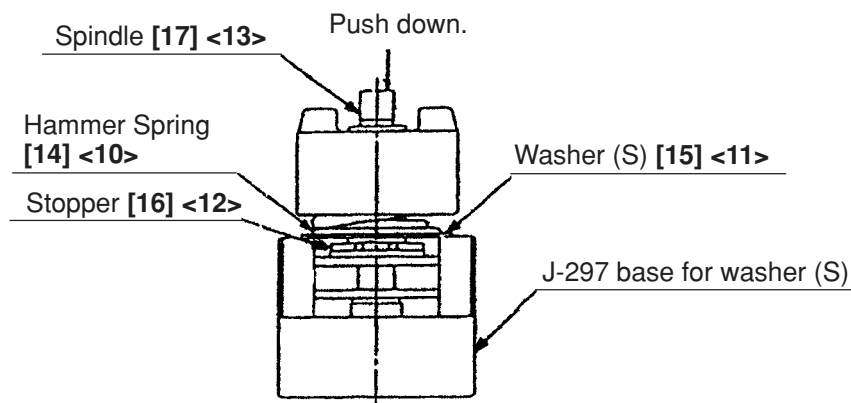

Fig. 2
Mount the hammer assembly onto the J-297 base for washer (S). With a hand press, push down the top of the Spindle [17] <13> to compress the Hammer Spring [14] <10>. In this position, remove the Stopper [16] <12> with a small flat-blade screwdriver, then release the hand press. (See Fig. 2).